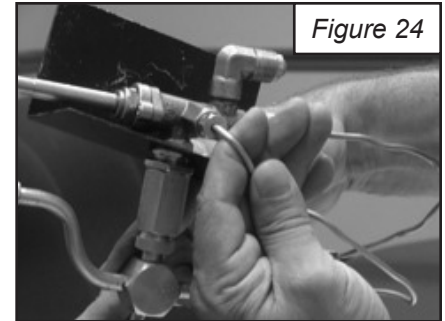

Figure 24
8. Carefully bend the supply line in a smooth 90 degree angle to prevent the line from being kinked. (See Figure 24)